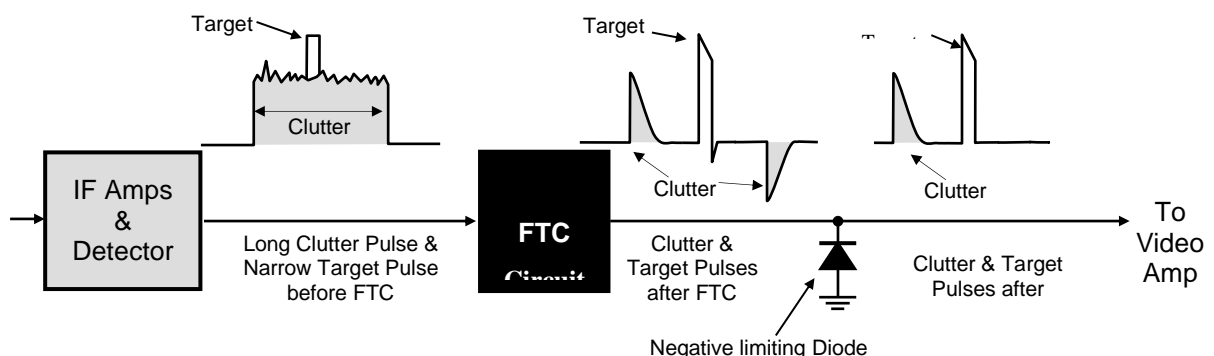

Figure 6 - Fast Time Constant (FTC) Clutter Reduction
40. Fast Time Constant (FTC). Figure 6 shows how the Fast Time Constant (FTC) technique reduces clutter by means of a Short CR Time Differentiating Circuit.